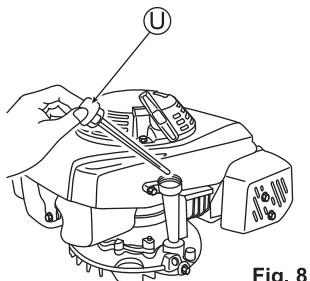

Fig. 8
1. Remove the oil tank cap (U), pull out the oil gauge, and then insert it not screwing it. (See Fig. 8)
2. Remove the oil tank cap (U), and confirm that the oil level is between the upper and lower limits of the oil gauge.
4. Firmly close the oil tank cap (U) after confirmation.